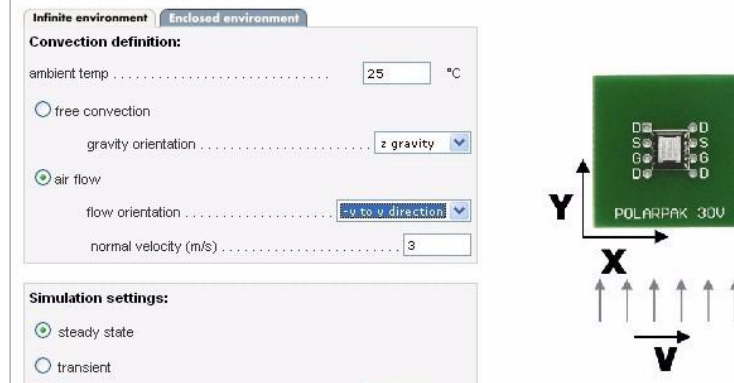

Figure 41.
- **-Y to Y direction** for air blowing over the PCB in +Y direction over the component (see Figure 41).
Enter the value of the airflow's **normal velocity** in the adjacent box in meters per second (refer to Figure 41).